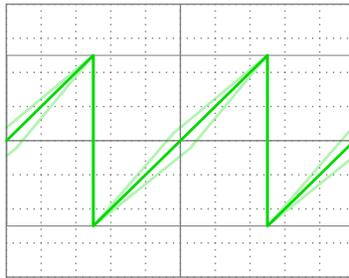

fig. 16, LFSLEW trimmer potentiometer adjustment.
- o **LFSLEW** Don't touch this, please. Leave the pretty blue sticker alone. It is there just in case it was needed, but it ended up not being needed. It's on you to fix if you touch it; it adjusts the slopes of the two halves of the ramp (fig. 16).